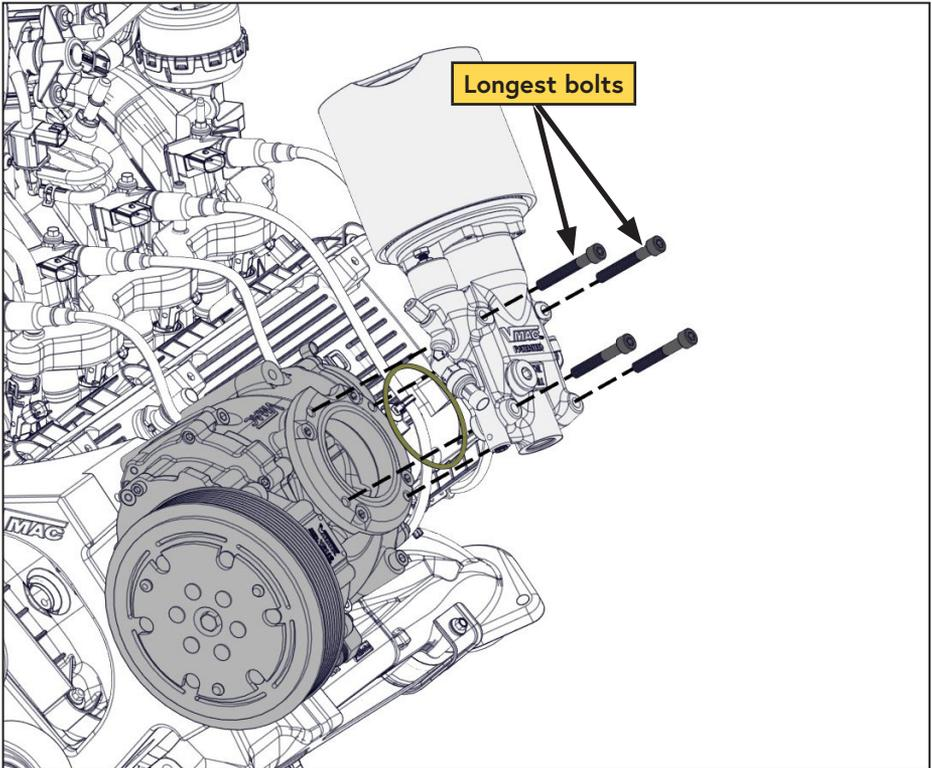

Figure 21 — Install inlet
- Remove the protective covering, place the Viton O-ring in the inlet adapter, and install the inlet onto the compressor (Figure 21).